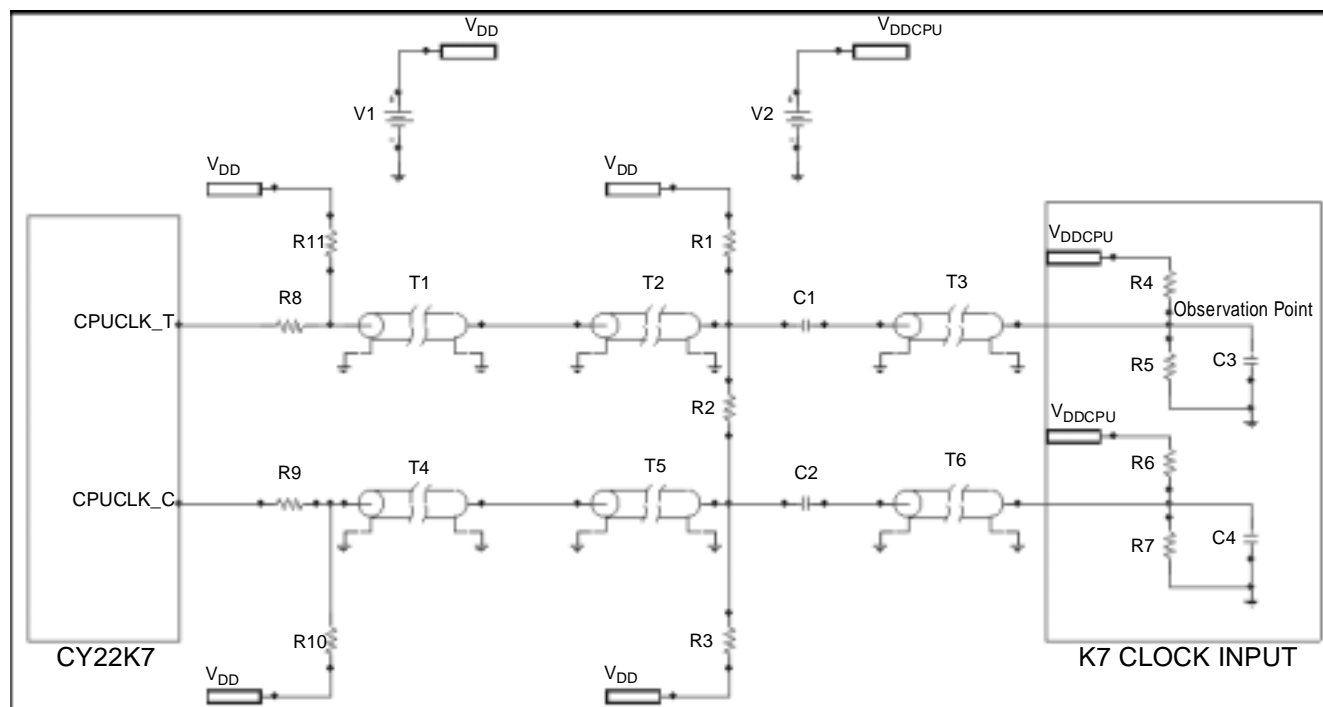
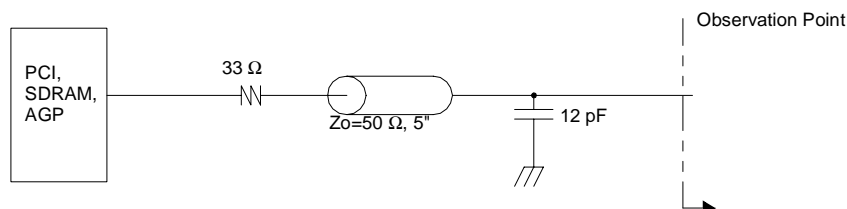

Figure 1. AMD CPU Load Circuit
Figure 2. Test Circuit for PCI/SDRAM/AGP
- All parameters for CPU are measured at observation point shown in figure1 on page 10 and parameters for PCI, SDRAM & AGP are measured at observation point shown in Figure 2 on page 11 unless otherwise mentioned.